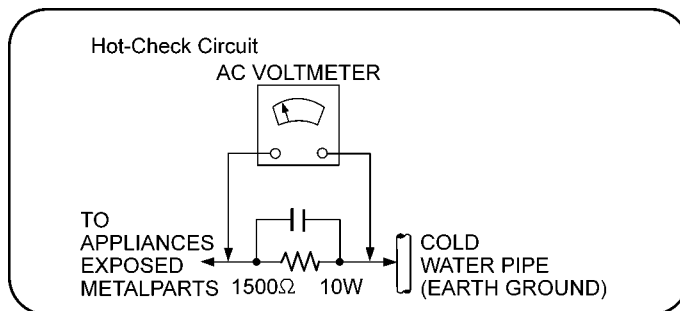

Figure 1-1
- Connect a  $1.5k\Omega$ , 10 watts resistor, in parallel with a  $0.15\mu F$  capacitors, between each exposed metallic part on the set and a good earth ground such as a water pipe, as shown in Figure 1-1.